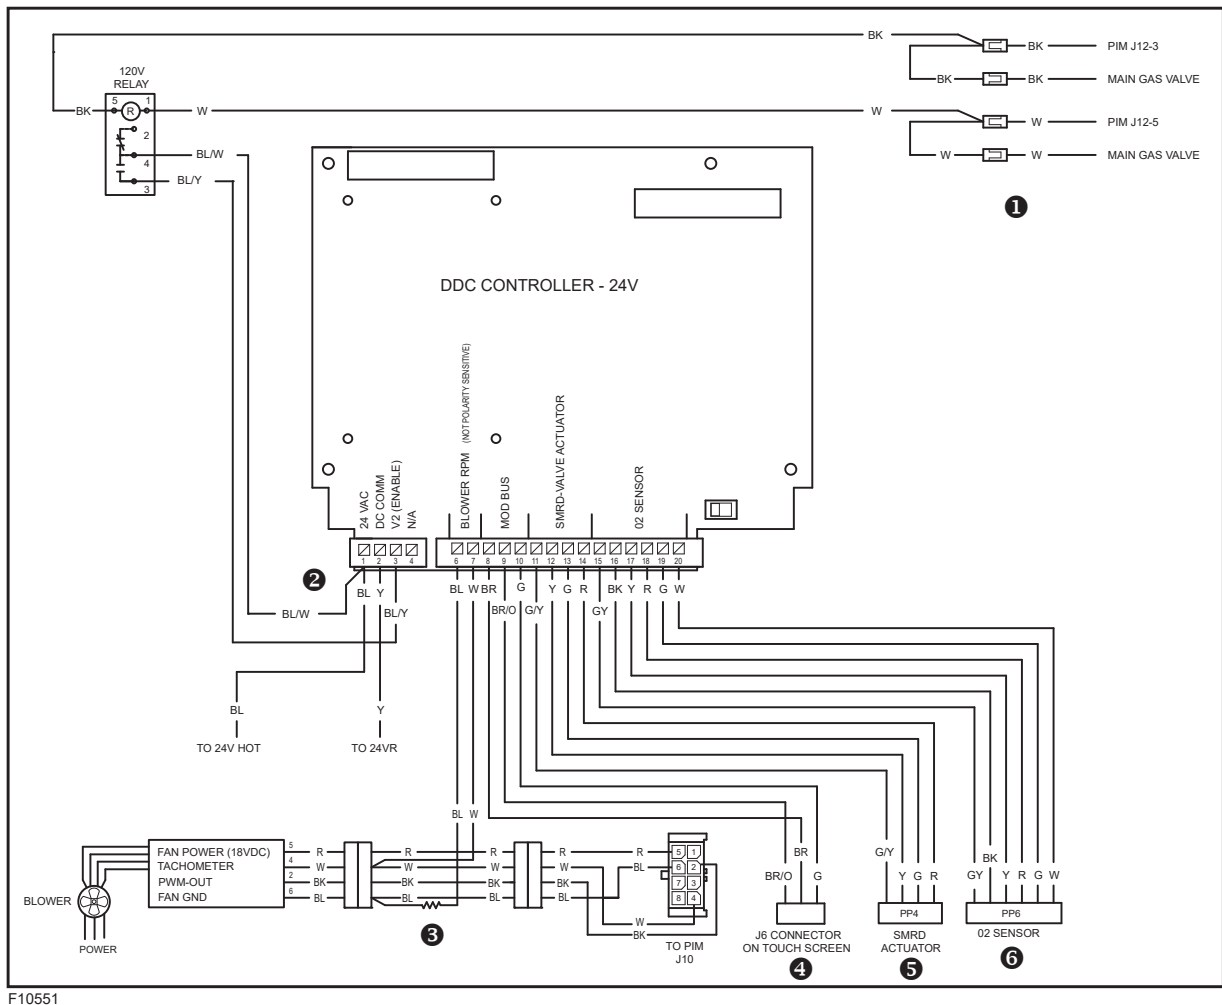

Figure 8. O₂ Trim System Wiring Diagram
There are six (6) harnesses for the O₂ trim system. See **Figure 8**.